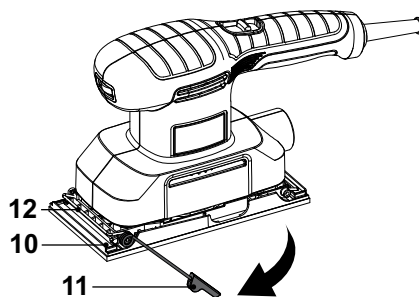

Fig. 4
- > Press the clamp lever (11) downwards along the base plate (10) to open the clamp bar (12) (Fig. 4).